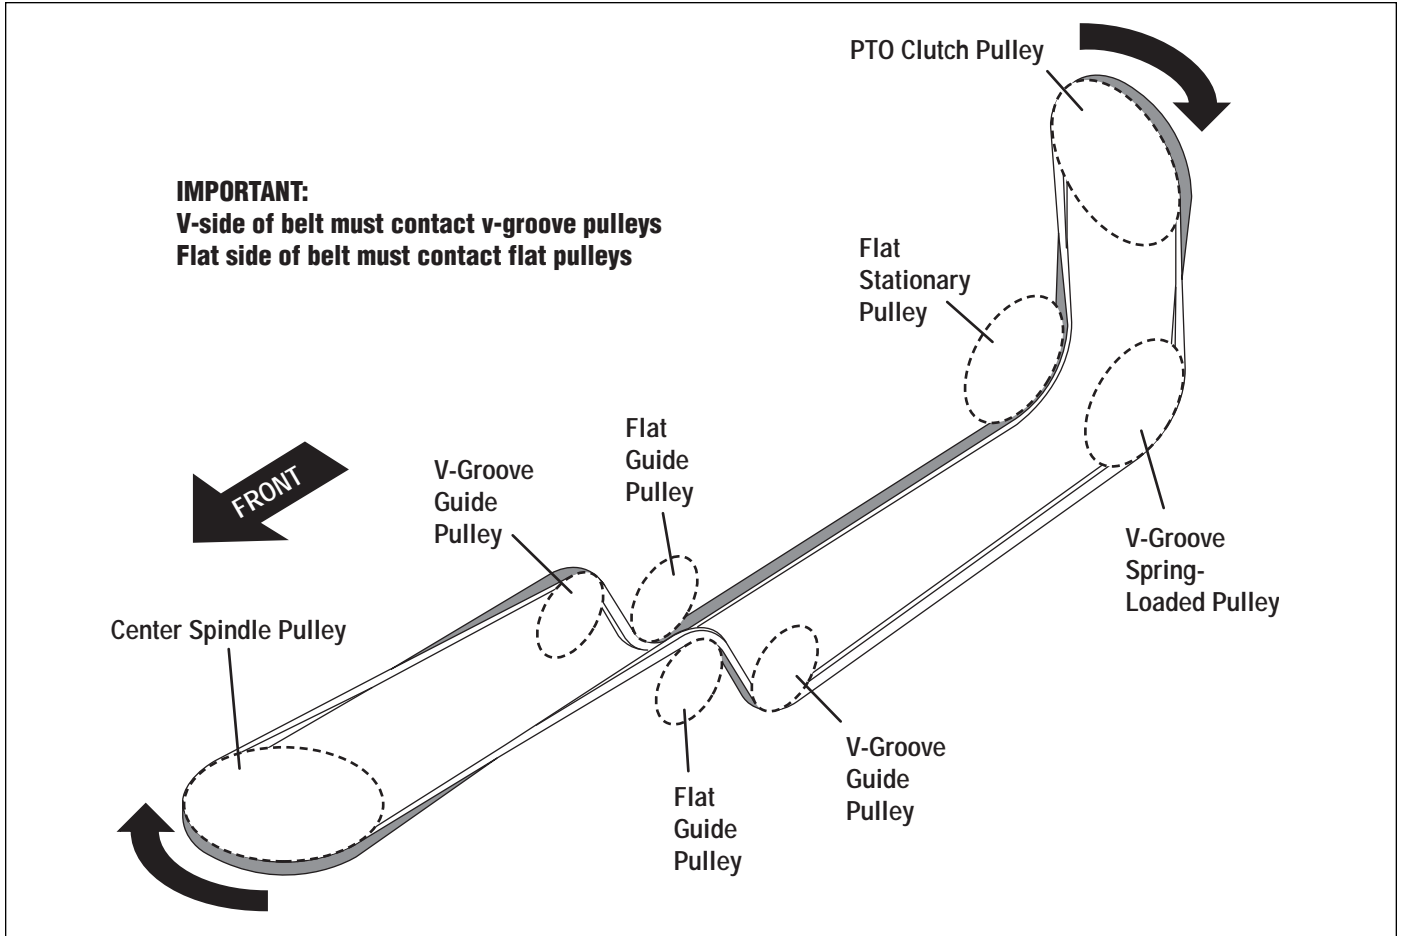

Figure 49. PTO Belt Routing
2. Install the belt on the center spindle pulley. Follow the illustration in Figure 49 carefully. Make sure the belt twists in the correct direction.
3. Install the belt over the PTO clutch pulley and the spring loaded idler pulley. Again, follow the illustration in Figure 49 carefully and make sure the belt twists in the correct direction.